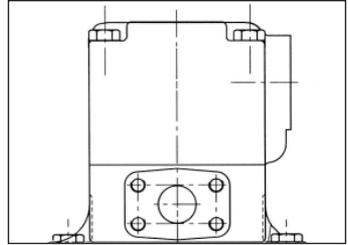

Fig. 13
1. Install the pump on the table. (A hole in the table or a bracket will help to unscrew the 4 pump bolts.) **(Fig. 13)**